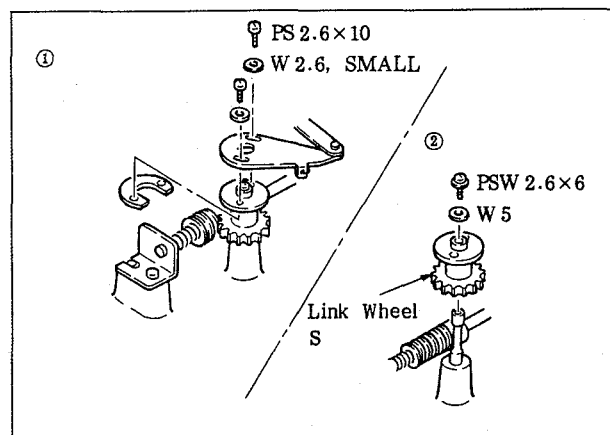
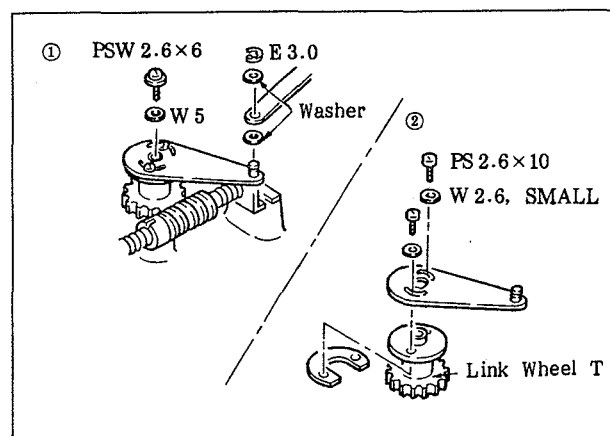

Fig. 6-66. Replacement of Link Wheel S
Fig. 6-67. Replacement of Link Wheel T
2. Replace link wheel S with a new one by referring to Figure 6-66, and link wheel T by referring to Figure 6-67.